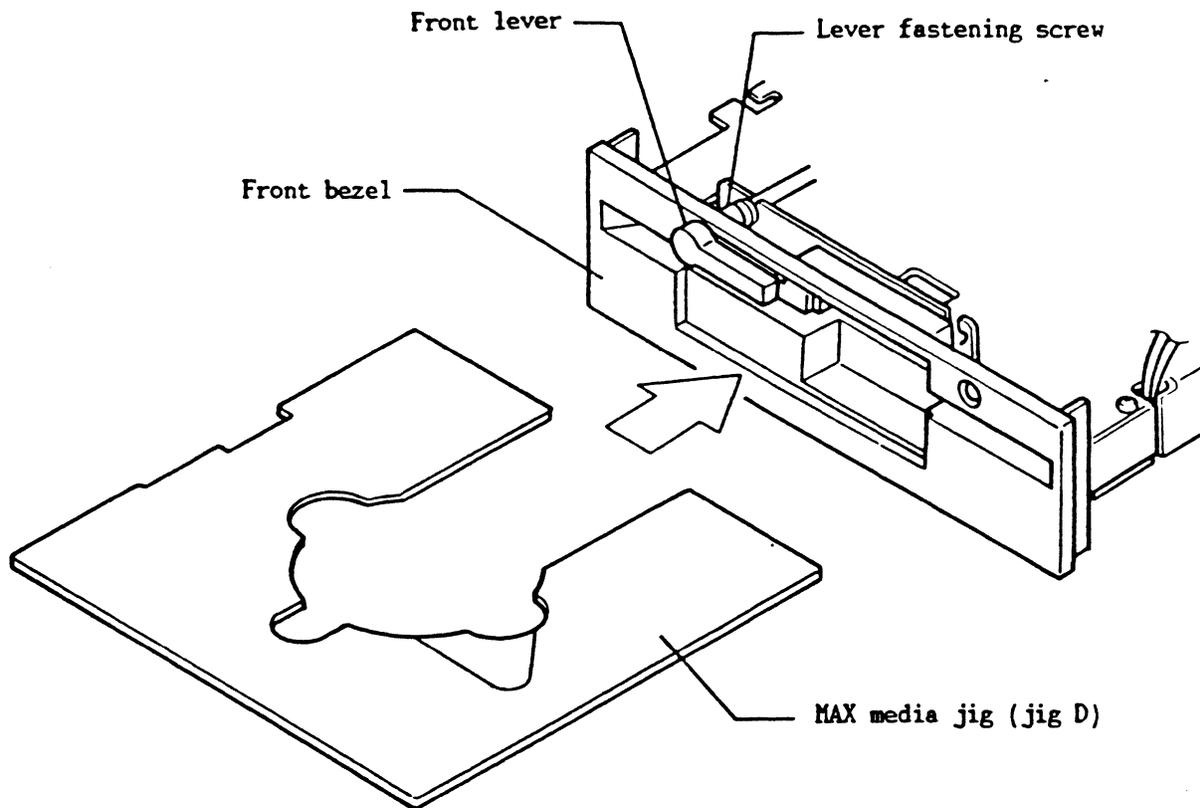
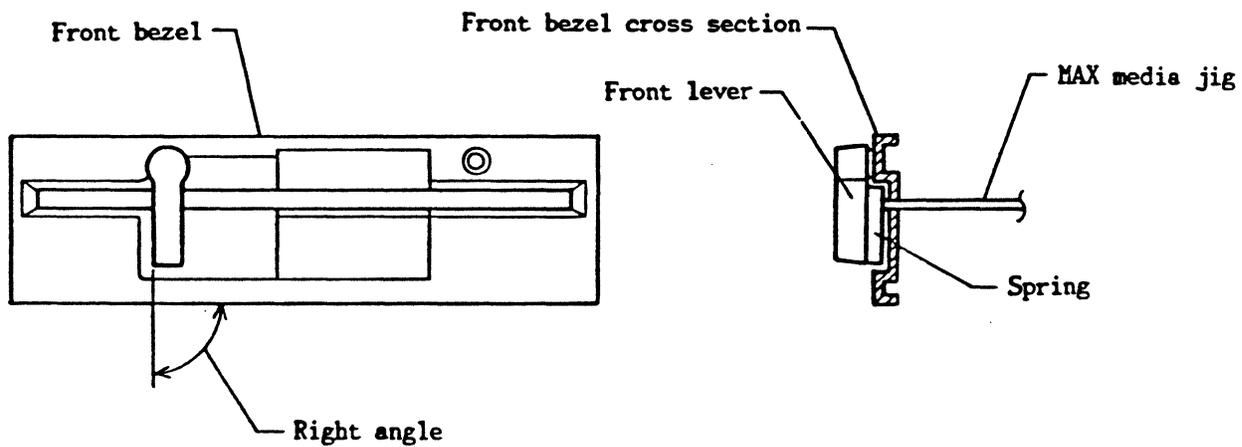

Fig. 408 Front Lever Adjustment
Fig. 409 Front Lever Position
- (1) Turn the front lever to the closed position, loosen the lever setscrew and pull out the lever approximately 0.5mm
- (2) Open the front lever and attach the MAX media jig at the position shown in Fig.408 (with the notch on the left side).
- (3) Turn the front lever to the closed position and press against the MAX media jig. Make sure that the lever shaft pin is in the slot of the front lever.
- (4) In this state, tighten the setscrew to the designated torque (refer to Fig.409).
- (5) Open and close the lever and make sure the lever spring does not straddle the MAX media jig.
- (6) Open the front lever and remove the jig.